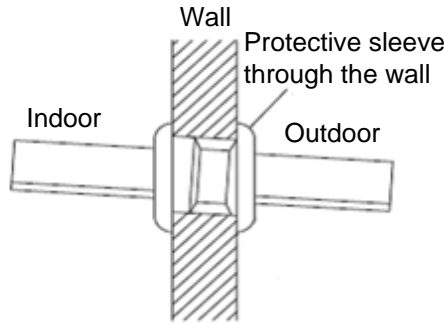

Figure 5-1 Refrigerant connecting pipe through the wall
(1) If the water tank and the main unit need to be connected by punching through a wall, a hole of $\Phi 55$ mm must be drilled in the wall and the hole should be inclined toward the exterior wall, as shown in Figure 5-1. Protective sleeves need to be put on both sides of the hole.
(2) Bind up the connecting pipes, power cable, water temperature sensing package, and communication lines (if necessary) of the wired controller with thermal insulation bands, and then lead